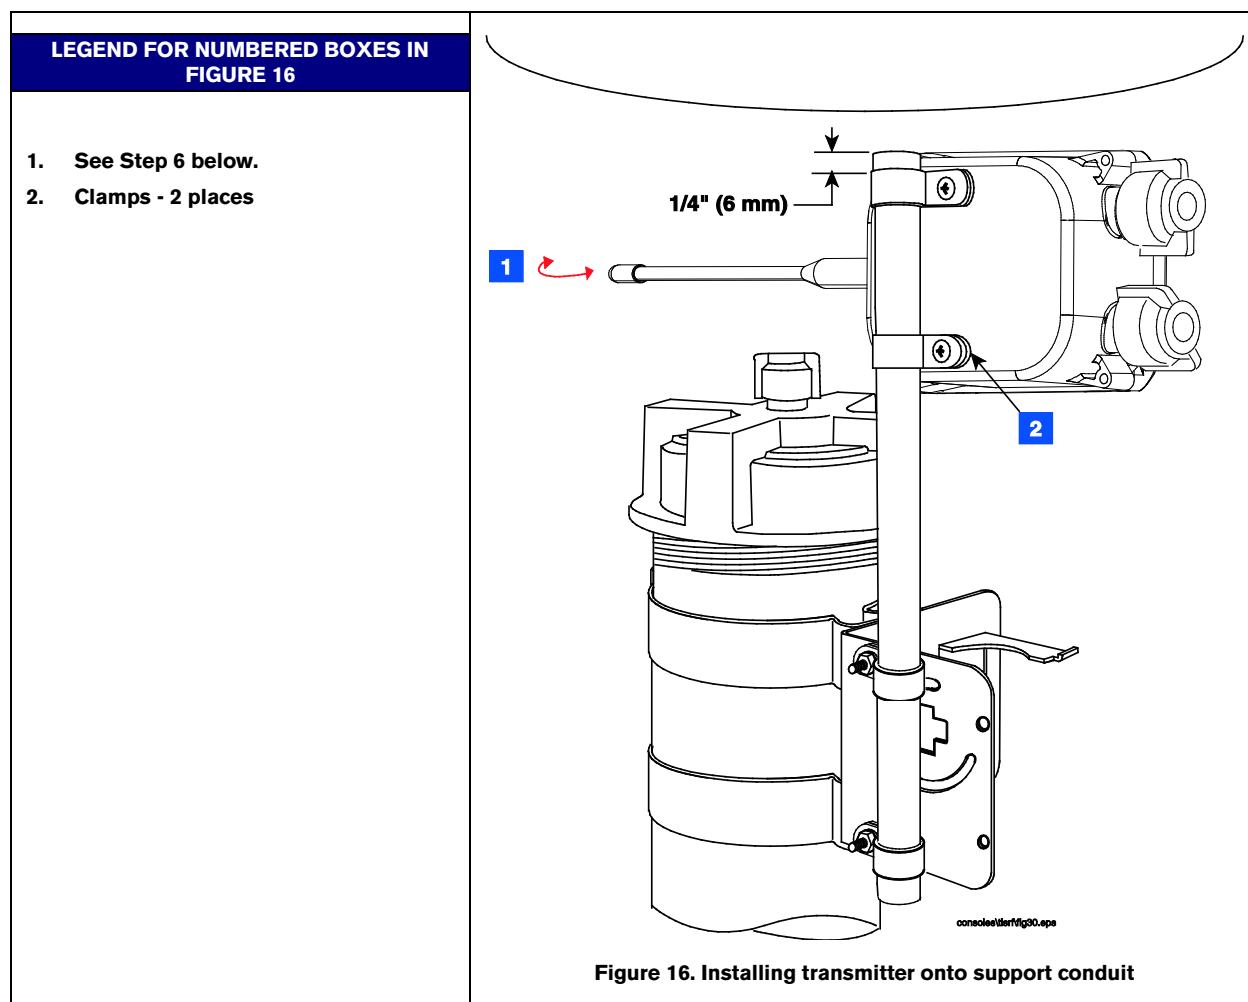

Figure 16. Installing transmitter onto support conduit
- Loosen the clamps on the back of the transmitter and slide the two clamps down over the conduit as shown in Figure 16. Position the transmitter until the top clamp is about 1/4" below the top of the conduit and tighten the clamps just enough to keep the transmitter from sliding down.